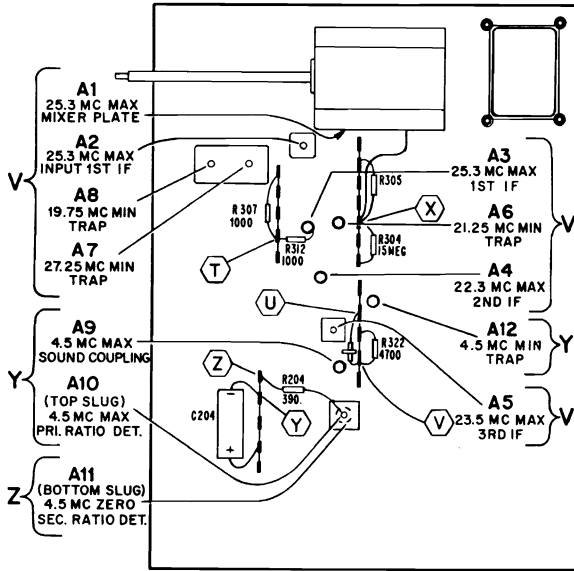

Figure 14. Bottom View of VHF Only Chassis Showing Test Point Connections and IF Alignment Data.
After becoming familiar with alignment procedure, some servicemen simplify subsequent alignment of sets by merely using the essential alignment data given in figures 14, 15, 19 and 26.
- Connect bias supply negative to test point "T", see figure 14, positive to chassis. 3 volts is required for steps 1, 2, 3, 4, 7 and 8. 1 1/2 volts is required for steps 5 and 6. 4 1/2 volts is required for step 7.